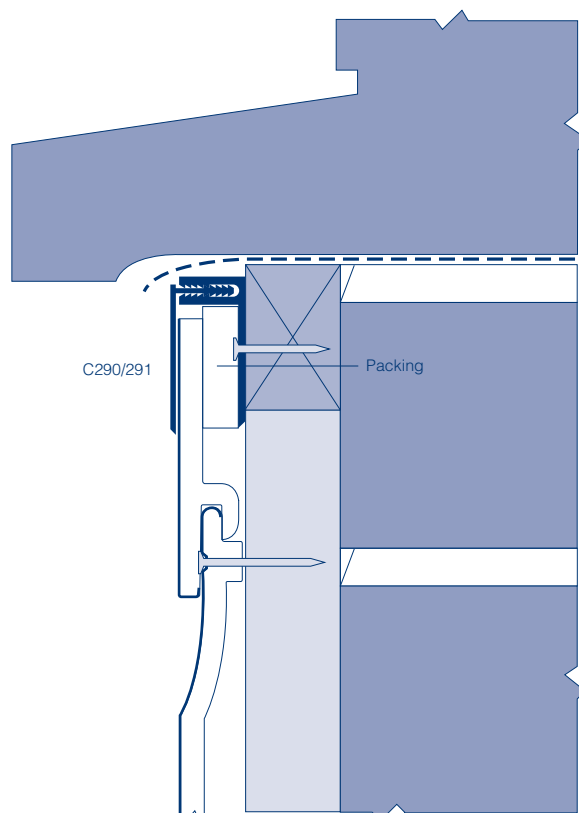

Fig. 17 Two-part trim C290/291 at cut plank below window sill
The C290/291 two-part universal trim is especially useful where the top plank has been cut to fit. The outer trim component will conceal the fixing nails. Figure 17 shows such an application below a sill.
- Planks cut as above require support at their top edges by means of packing pieces at the fixing points. Pieces cut from cladding offcuts may be suitably used. See figure 17.